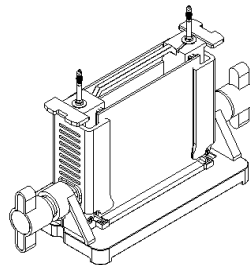

Figure 4
3. Put the main body into gel casting device (**note:** put the main body in the system before binder, rubber must be on binder positioning groove, the rubber can be used on both sides and can be used interchangeably. Use after each system's glue is water rinsed, dried naturally or with blotting paper. Must not use dry heating method). At this point, handle the start bit and base with the arrow aligned (as shown in figure 4), at the same time push the handle to the subject, until it does not move, then start the handle into knob end position.